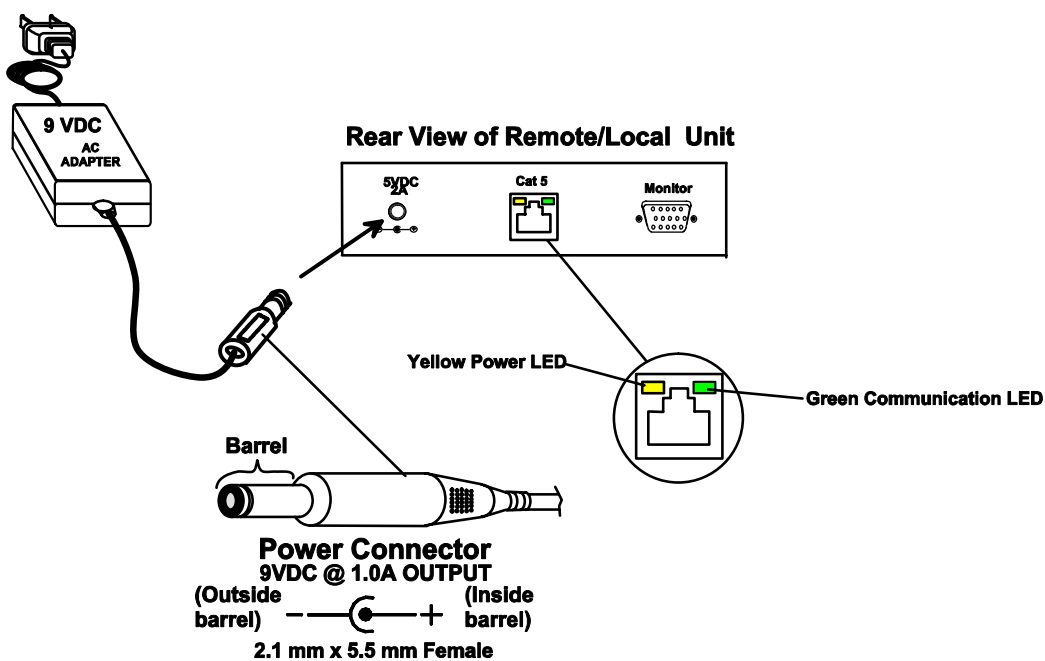

Figure 4- Connect the AC adapters
2. Connect each AC adapter power connector to the 9VDC ports on the Remote and Local Units. Make sure the power connectors go into each port all the way. Plug each AC adapter into a power outlet. The yellow LED on the RJ45 connector of both the Remote and Local Units should illuminate, indicating that a proper power connection has been made to them. (See Fig. 4.)
**Note:** The green LED on each RJ45 connector will blink anytime data traffic is passing between the Local and Remote Units, indicating proper CAT5 cable connection and communication. (See Fig. 4)